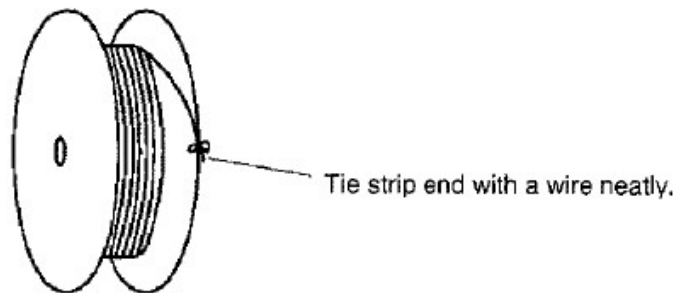

Fig. 5
(3) Avoid storing the TML reel in a moist or dusty place. TML should keep dry and clean place(5~34 ° C, 45~85%RH) away from direct sunlight
(4) When removing the TML reel from the machine, fasten the end of the TML strip onto the edge for the reel with use of proper string or wire. (Fig. 5)